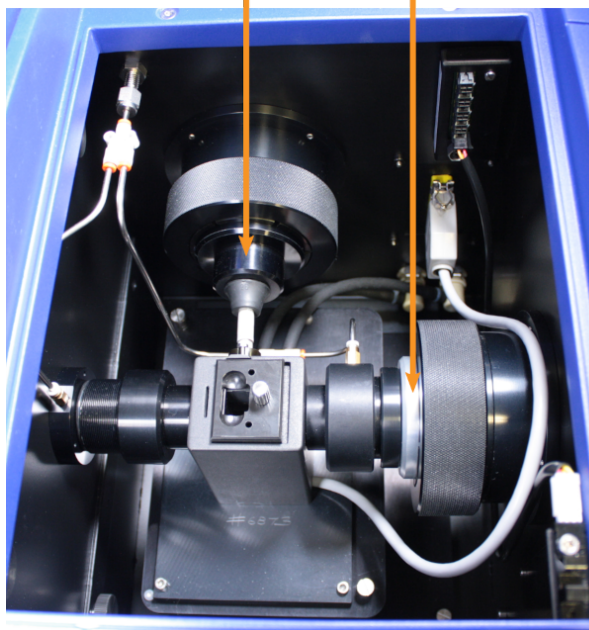

Figure 27: The interior of the sample chamber in front view with CD detector installed and CCD Emission Fluorometer in the fluorescence detector port
- to install a fluorescence accessory^[52] such as the CCD Emission Fluorometer (Figure 27)
After detector installation, the interior of the sample chamber appears from the front as in Figure 27 (note that the CCD Emission Fluorometer is not fitted to every spectrometer). If a detector port is not in use, it is sealed with a blanking plate (Figure 16).